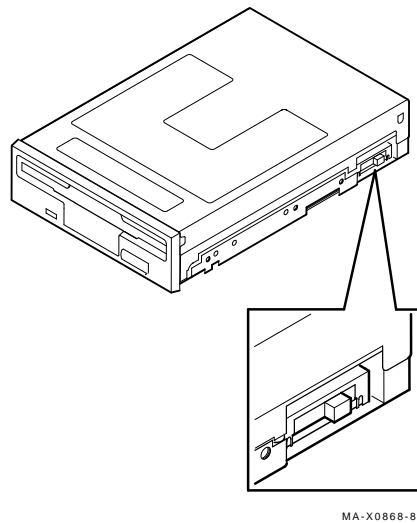

Figure 2-2 Setting the RX23 Drive Select Switch
1. Set the drive select switch to the zero position which is all the way towards the back of the drive (Figure 2-2).